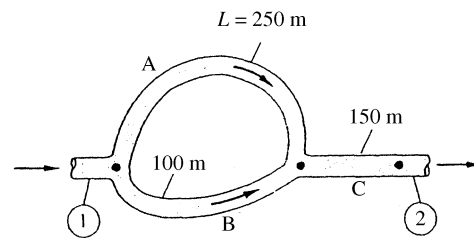

Fig. P6.116
**6.116** For the series-parallel system of Fig. P6.116, all pipes are 8-cm-diameter asphalted cast iron. If the total pressure drop  $p_1 - p_2 = 750$  kPa, find the resulting flow rate  $Q$  m3/h for water at 20°C. Neglect minor losses.